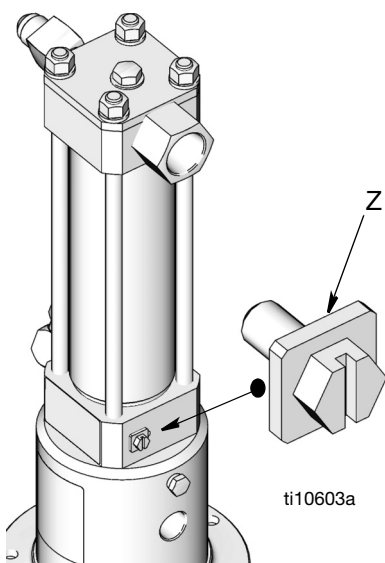

FIG. 1
- **Pump:** Order Grounding Wire and Clamp Kit, Part No. 222011. See Grounding the Pump and FIG. 1,
To ground pump (See FIG. 1):